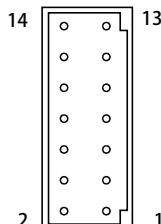

Fig. 3-5:
The external control connector, used for analog programming of the power supply, is located on the rear panel of the unit,(Fig. 4-2, item 4). The pin assignment is shown in Fig. 3-5 below.